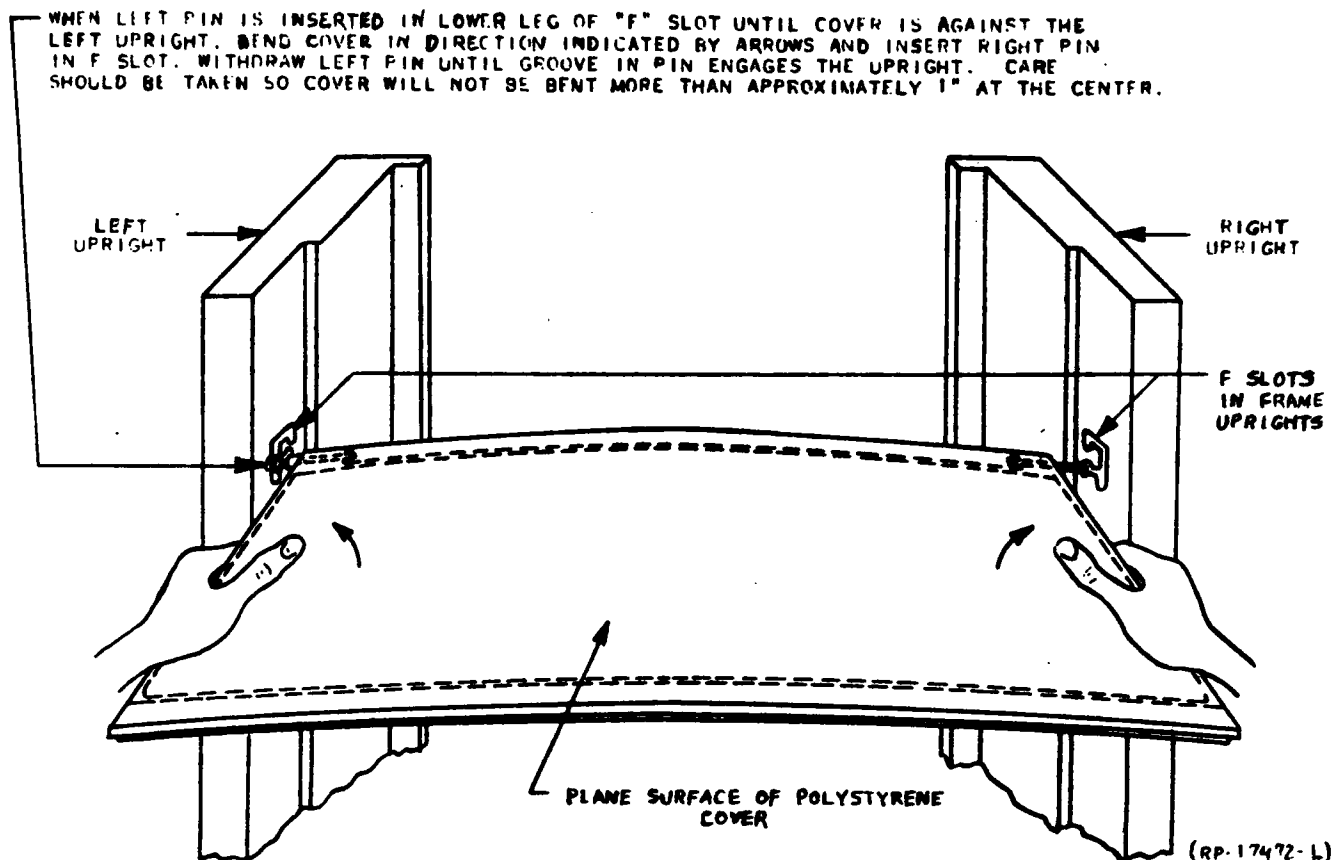

FIG. 1 METHOD OF MOUNTING MOLDED PLASTIC COVERS
5.222 With the plane surface of the cover toward the installer, and the hinge pins up, the cover should be held with the left side in the left hand and the right side in the right hand, with the thumbs toward the installer. Next the projecting end of the left hinge pin should be inserted in the large hole in the lower leg of the F slot of the frame until the polystyrene cover contacts the face of the upright. Now the fingers of each hand should press on the far side of the cover bowing the center of the cover toward the installer, thereby permitting the right hinge pin to be inserted in the F slot in the right upright. The cover should then be moved to the right until the groove in the left hinge pin coincides with the .050" sheet steel of the upright. The cover can then be closed and the hinge pins moved to the top leg of the F slots. See Figure 1.